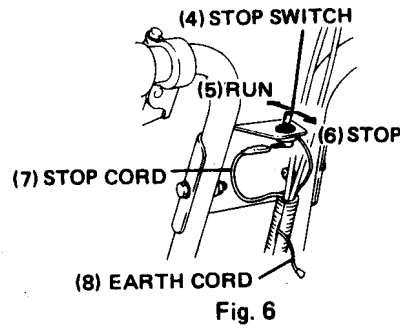

Fig. 6
- b. Connect the stop cord to the stop switch terminal. (Fig. 6)
- f. Untie the earth cord (8) on stop switch and insert it to protection tube that has a slit. (Fig. 6)